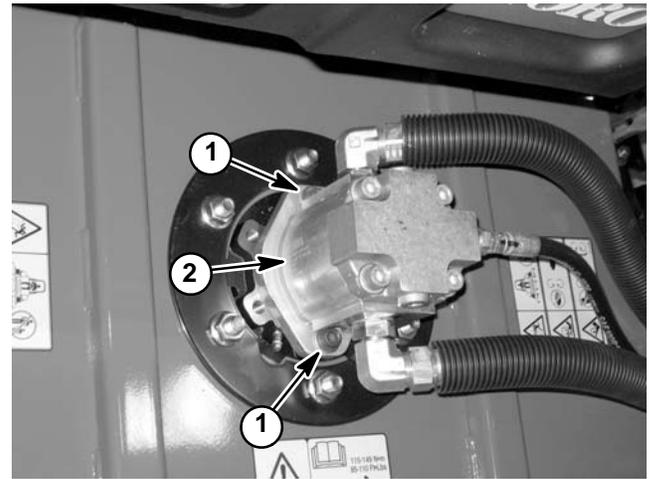

Figure 5
2. Remove two (2) socket head screws and flat washers that secure hydraulic motor to the cutting deck (Fig. 5). Remove hydraulic motor and O-ring from deck.